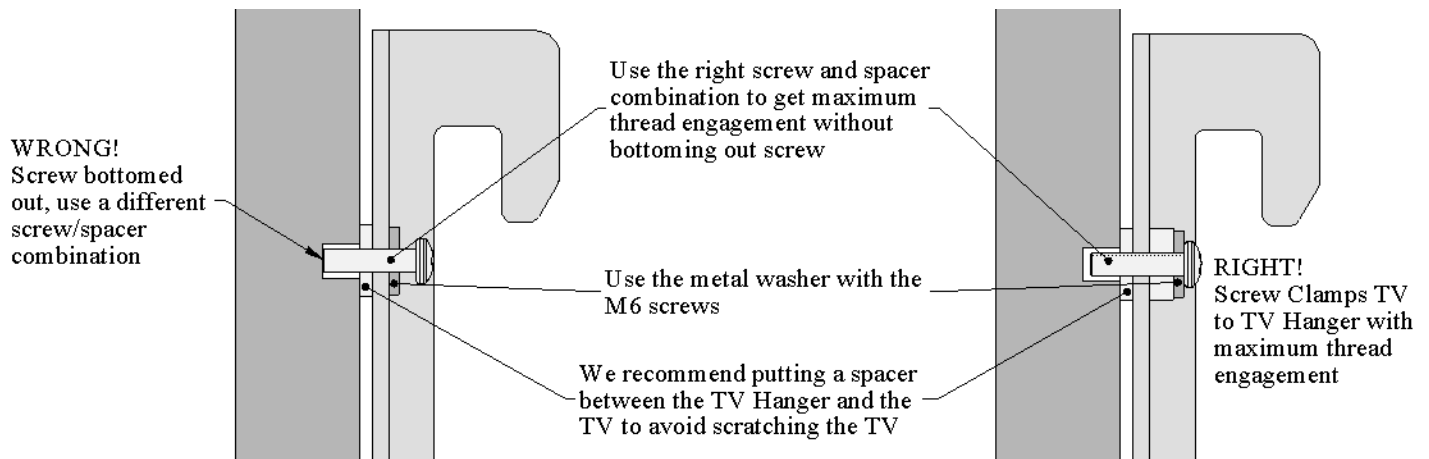

Figure 9, Attaching TV Hangers to TV
7. Figure 9 shows how to attach the TV Hangers to the TV.